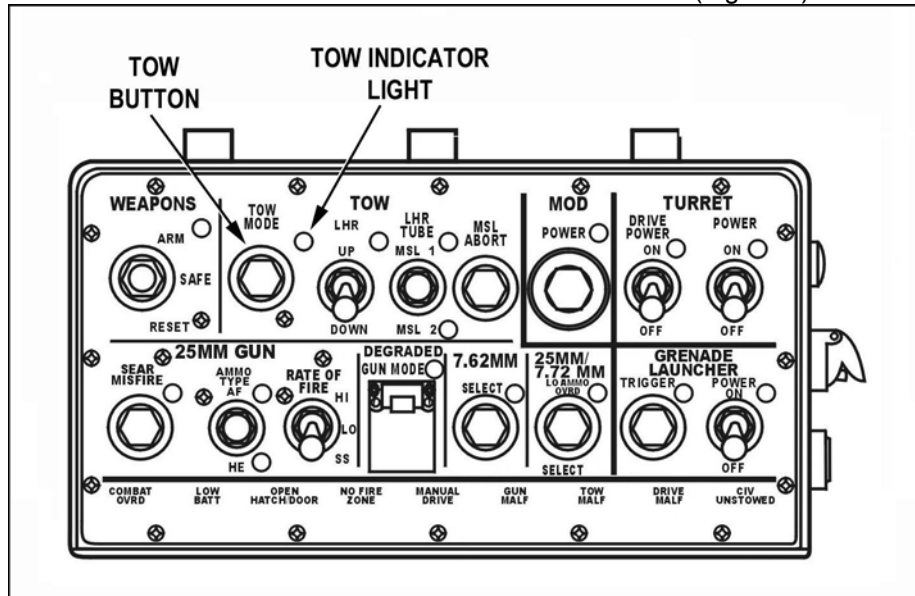

Figure 9. TOW button and indicator light.
d. Press and release the TOW mode button located on the SCB (Figure 9).